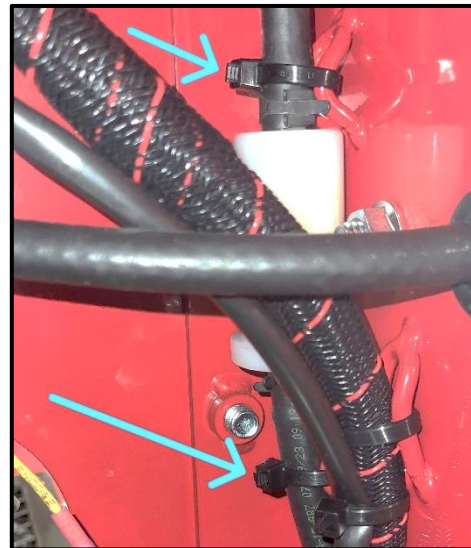

Figure 3 Zip Ties Securing Fuel Filter
3. Clip the (2) zip ties securing the fuel lines [Figure 3] on either side of the fuel filter using a pair of diagonal cutting pliers.